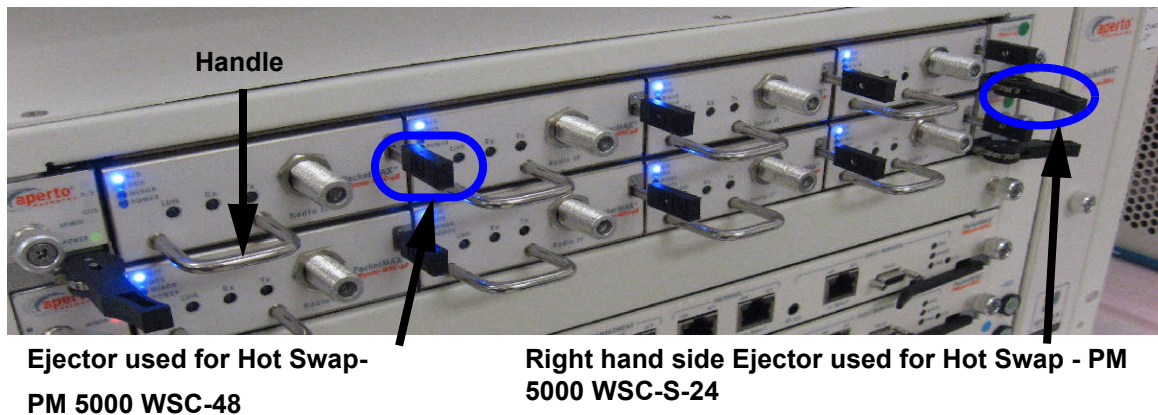

Figure 2-10 Ejector for hot swapping WSC Card
1. When the blue H/S LED is on, push the ejector arm (pointed outward) located on each card (shown in Figure 2-10).
1. Push in BOTH ejector arms located at each end of the card (shown in Figure 2-10) and hold them until the blue H/S LED light turns ON.
1. Push in the right hand side ejector arm (vertically) located at end of the card (shown in Figure 2-10) and hold them until the blue H/S LED light turns ON.